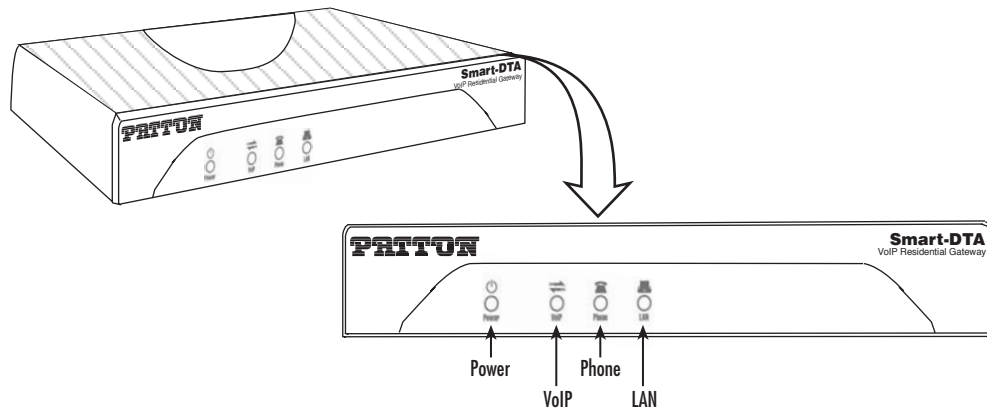

Figure 8. Router front panel LEDs
4. Verify that the green *Power* LED is lit (see figure 8).